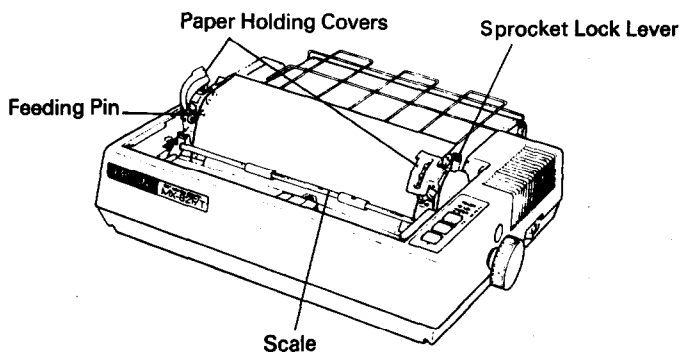

Fig. 32 Engagement of Paper Feed Holes on Feeding Pins
9. Engage the paper feed holes of the paper on the feeding pins, push the scale back into position, and adjust the tension of the paper. Then push the paper holding covers and the two sprocket lock levers down. (See Fig. 32)